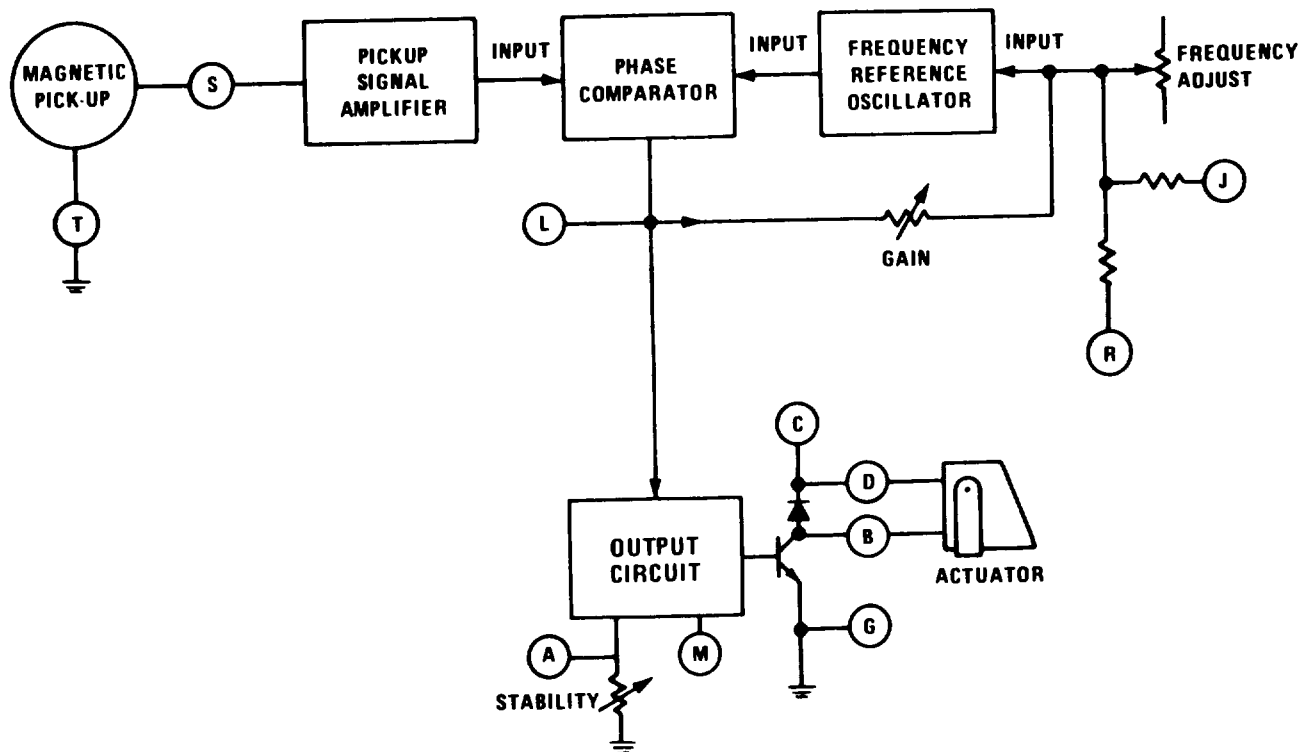

Figure 3-85. Functional Theory of Operation
- (1) The electric governing system is a speed (frequency) sensing system used to maintain constant engine speed and generator output frequency during periods of unchanging load and when load additions or deletions occur. The system consists of a control unit, magnetic pickup and an electric throttle actuating unit. The engine speed signal is obtained from a magnetic pickup mounted in the flywheel housing in close proximity to the flywheel ring gear. The frequency of the pickup signal is proportional to engine speed. Figure 3-85 shows the functional theory of operation.
- (2) The control unit has four distinct circuits: pickup signal amplifier, frequency reference oscillator, phase comparator and output circuit.